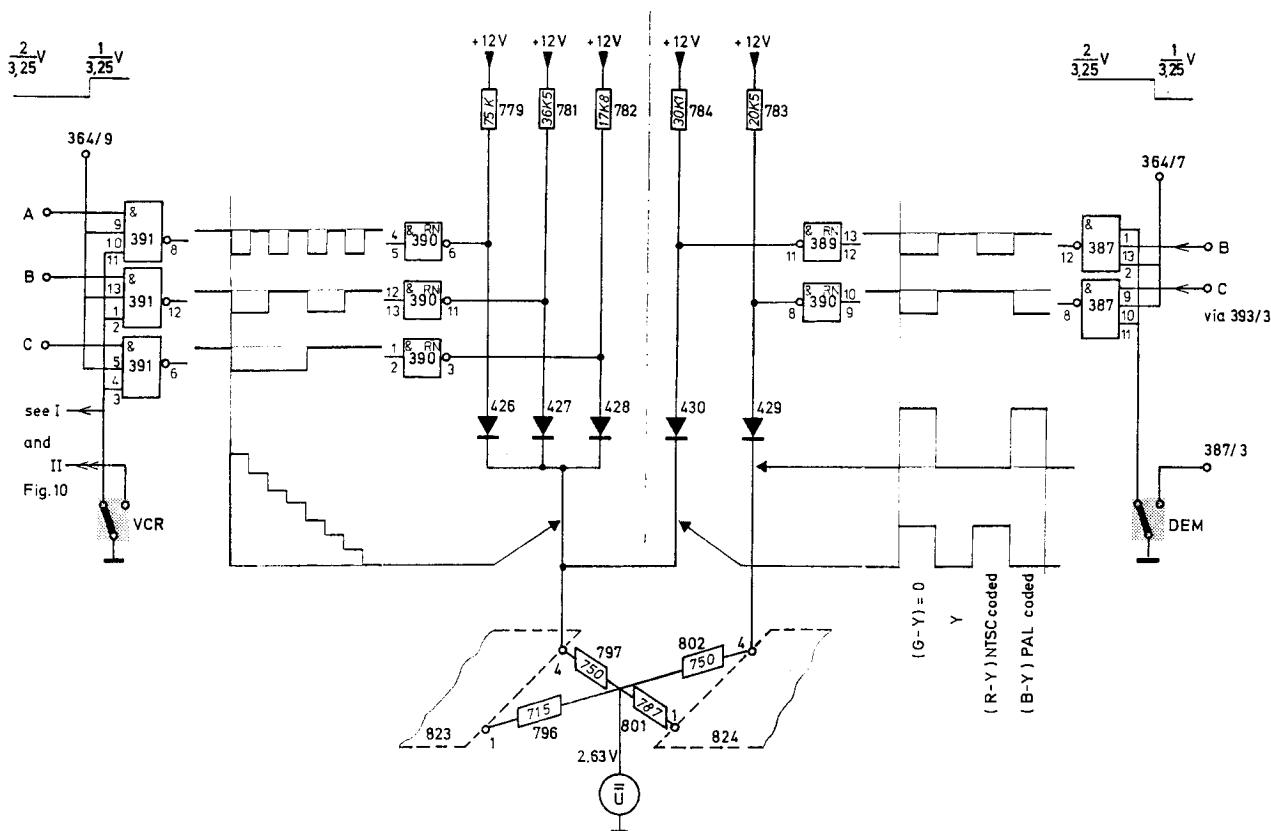

Fig. 20.1 Control of the colour modulator for DEM and VCR
2.2.8.4. Pushbutton DEM depressed, fig. 20.1
The necessary  $(R-Y)$  and  $(B-Y)$  pulses are applied to the colour matrix by the resistors 783 and 784 (fig. 20.1). Pulse B is one of the driving signals, the other one is a NAND combination of pulse C and B. In the phase-switches 327, 328 the colour carrier frequencies ( $f_{sub}$ ) are switched to the required NTSC- or PAL-coded mode by means of the AND-gates 394/8 and 394/12.
## 2.2.8.5. Pushbutton VCR depressed, fig. 20.1